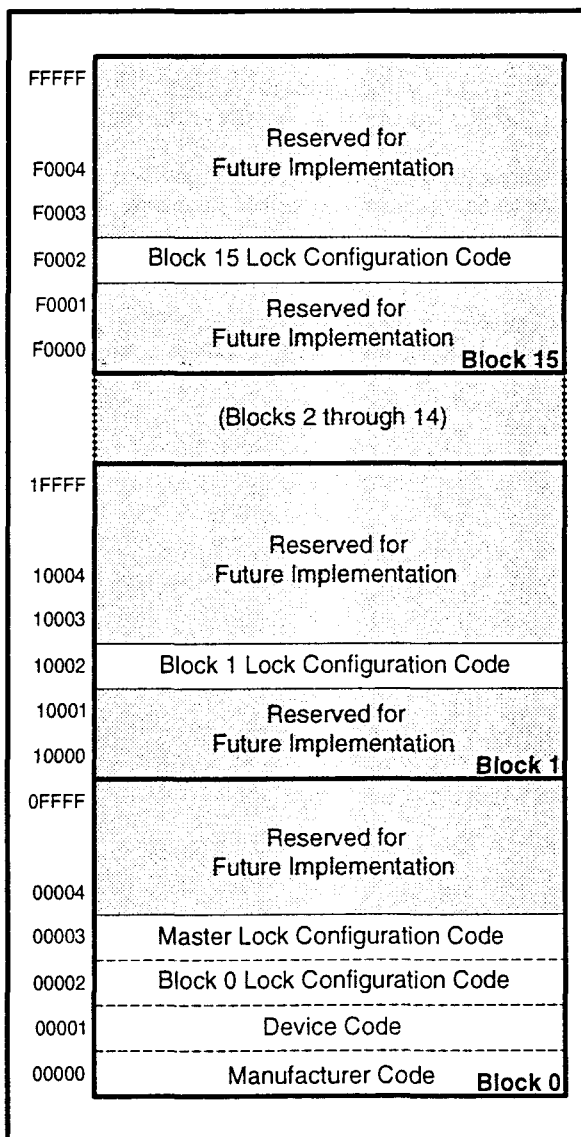

Figure 7. Device Identifier Code Memory Map
The read identifier codes operation outputs the manufacturer code, device code, block lock configuration codes for each block, and the master lock configuration code (see Figure 7). Using the manufacturer and device codes, the system CPU can automatically match the device with its proper algorithms. The block lock and master lock configuration codes identify locked and unlocked blocks and master lock-bit setting.
IA=Identifier Code Address: see Figure 7.
The identifier code operation is initiated by writing the Read Identifier Codes command. Following the command write, read cycles from addresses shown in Figure 7 retrieve the manufacturer, device, block lock configuration and master lock configuration codes (see Table 5 for identifier code values). To terminate the operation, write another valid command. Like the Read Array command, the Read Identifier Codes command functions independently of the V_{PP} voltage and RP# can be V_{IH} or V_{HH} . Following the Read Identifier Codes command, the following information can be read:
- X selects the specific block lock configuration code to be read. See Figure 7 for the device identifier code memory map.